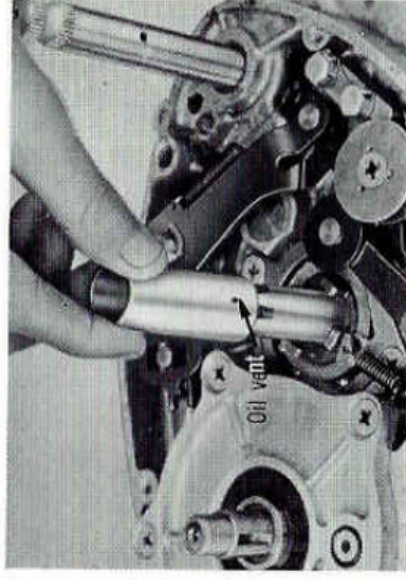

Fig. 8-3-21
- B. When fitting the **clutch housing spacer**, first pour oil to both inside and outside of the spacer, and next fit the spacer with a small hole of it facing toward the gear box. (Fig. 8-3-21)